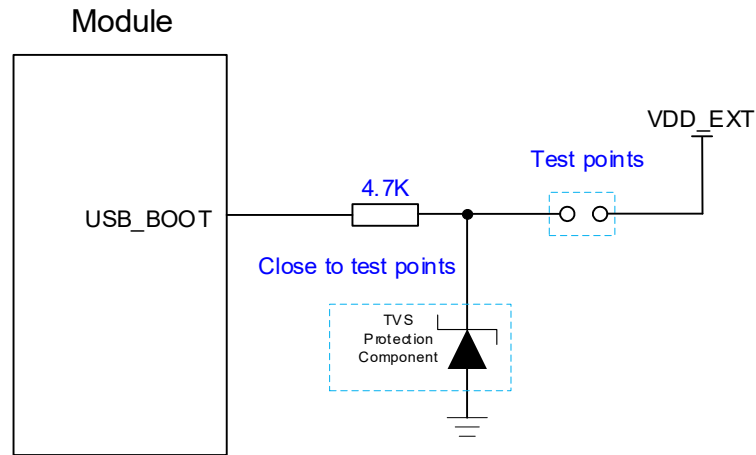

Figure 17: Reference Design of USB_BOOT
2. Follow the above timing when using MCU to control module to enter the forced download mode. If you need to manually force the module to enter forced download mode, directly connect the test points shown in **Figure 17**.